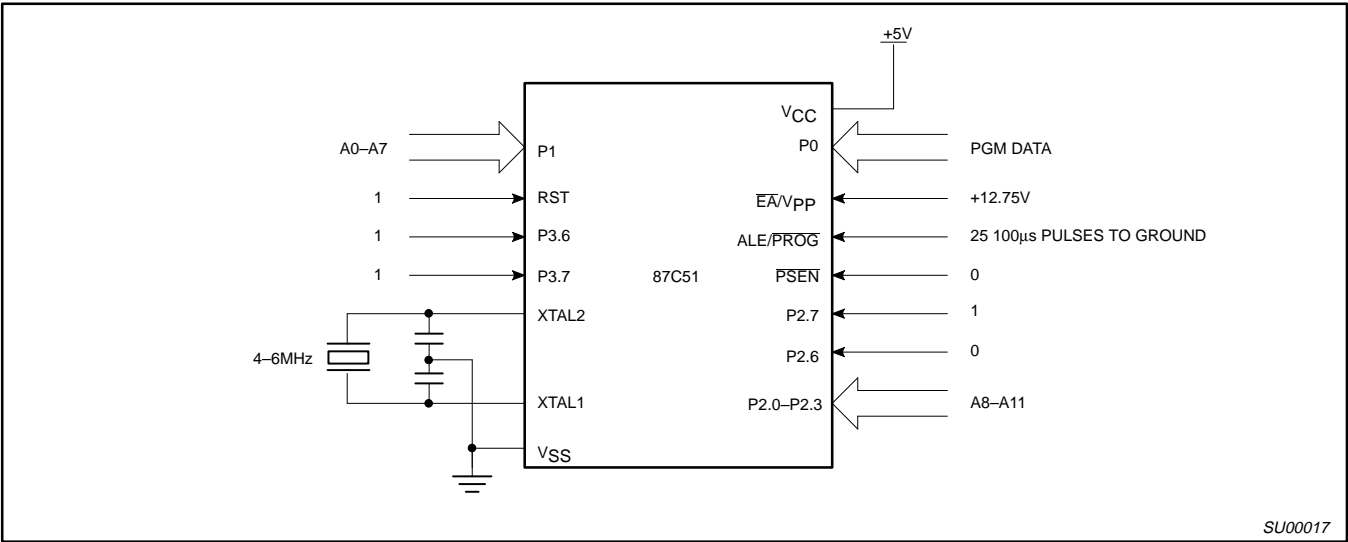
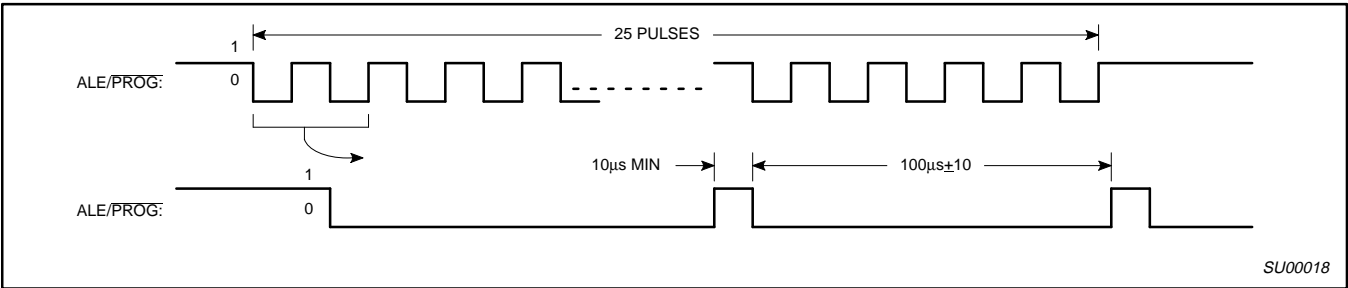
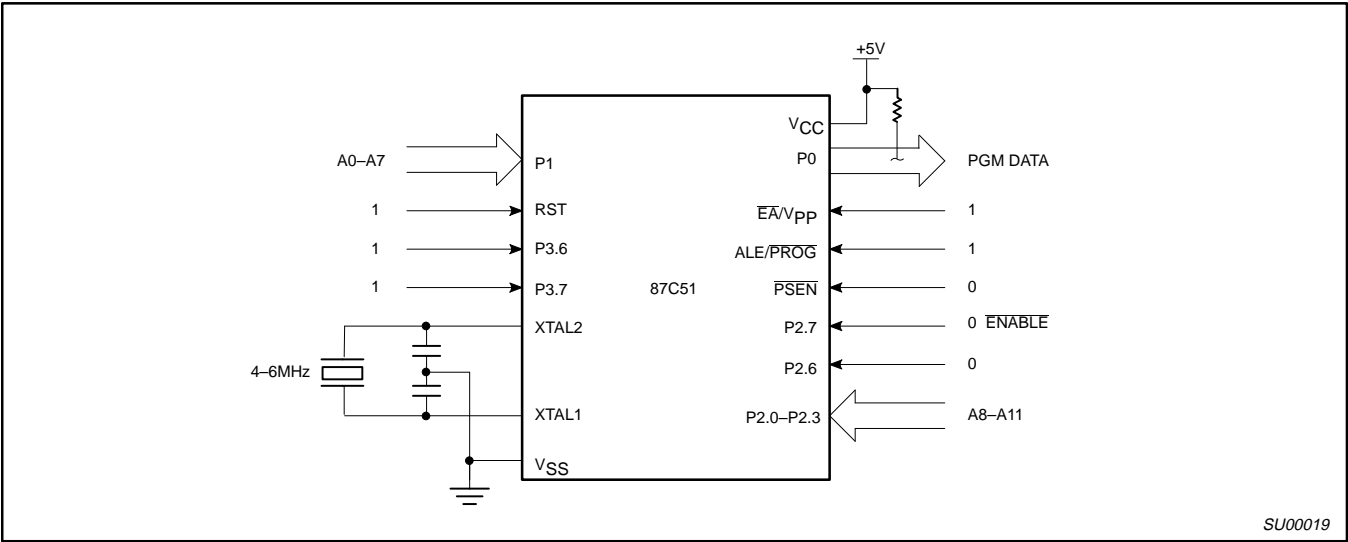

Figure 13. Programming Configuration
Figure 14. PROG Waveform
Figure 15. Program Verification
Table 3 shows the logic levels for reading the signature bytes, and for programming the program memory, the encryption table, and the security bits. The circuit configuration and waveforms for quick-pulse programming are shown in Figures 13 and 14. Figure 15 shows the circuit configuration for normal program memory verification.
The setup for microcontroller quick-pulse programming is shown in Figure 13. Note that the 87C51 is running with a 4 to 6MHz oscillator. The reason the oscillator needs to be running is that the device is executing internal address and program data transfers.
The address of the EPROM location to be programmed is applied to ports 1 and 2, as shown in Figure 13. The code byte to be programmed into that location is applied to port 0. RST, \overline{PSEN} and pins of ports 2 and 3 specified in Table 3 are held at the 'Program Code Data' levels indicated in Table 3. The ALE/PROG is pulsed low 25 times as shown in Figure 14.
If security bit 2 has not been programmed, the on-chip program memory can be read out for program verification. The address of the program memory locations to be read is applied to ports 1 and 2 as shown in Figure 15. The other pins are held at the 'Verify Code Data' levels indicated in Table 3. The contents of the address location will be emitted on port 0. External pull-ups are required on port 0 for this operation.
- * FOR PROGRAMMING VERIFICATION SEE FIGURE 13.
FOR VERIFICATION CONDITIONS SEE FIGURE 15.